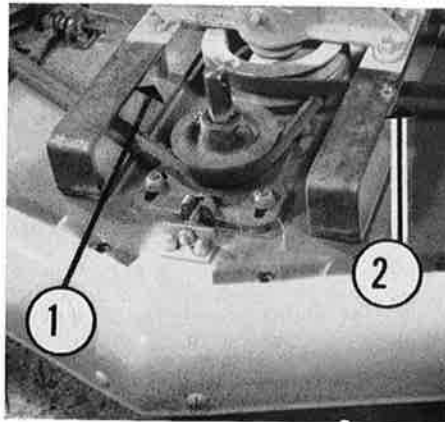

Figure 15
2. Remove the right Drive Mount Support Sleeve, 1 in Figure 15. To do this, elevate the Mower sufficiently to enable you to hold the Sleeve Bolt on the underside of the Deck. Remove the nut from the Sleeve Bolt, and tap the Bolt free of the Mower, and remove the Sleeve.
4. Remove the left Drive Mount Support Sleeve, 2 in Figure 15.